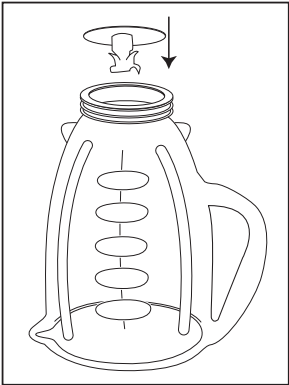

FIGURE 3
- 4. Place blade into jar. (Figure 3)